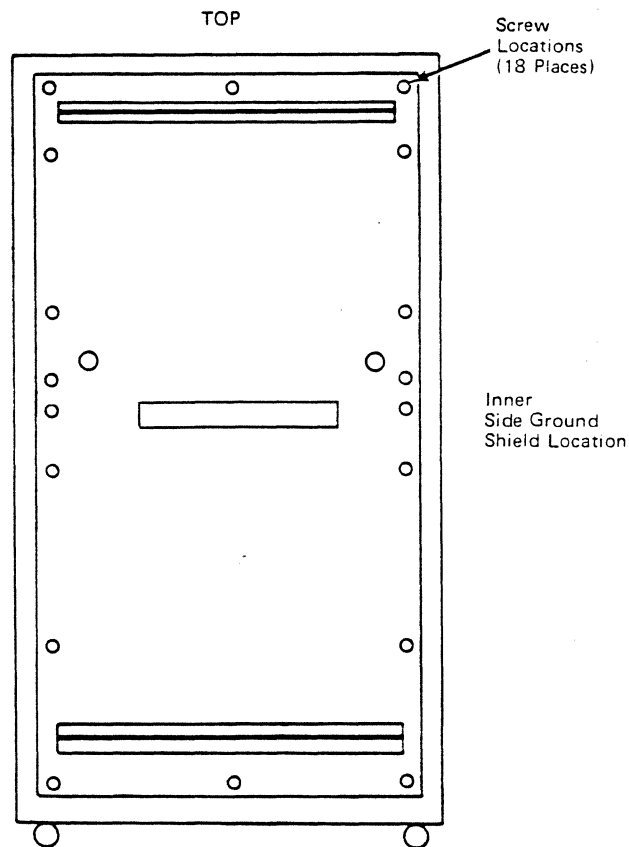

Figure 7-14.. Replacing Inner Side Ground Shield Covers
16. Install the inner side ground shield cover removed from the base unit or the last extension unit (Figure 7-14) by performing the following.